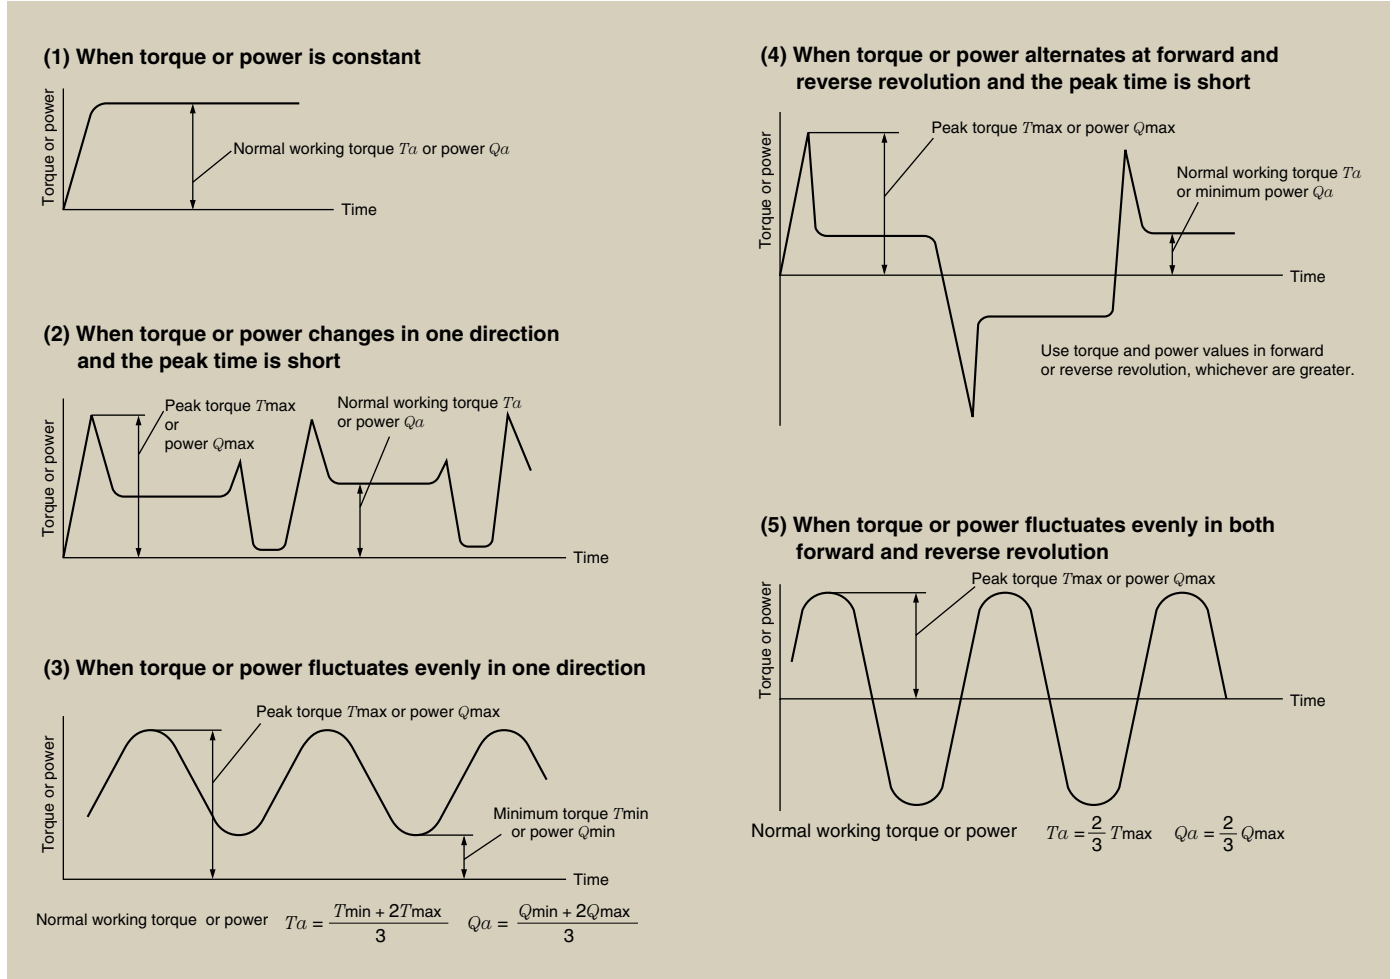

Fig. 1 Load models
1.1 By referring to the load models in **Fig. 1**, determine normal working torque T_a {kgf·m} or power Q_a {kW}.